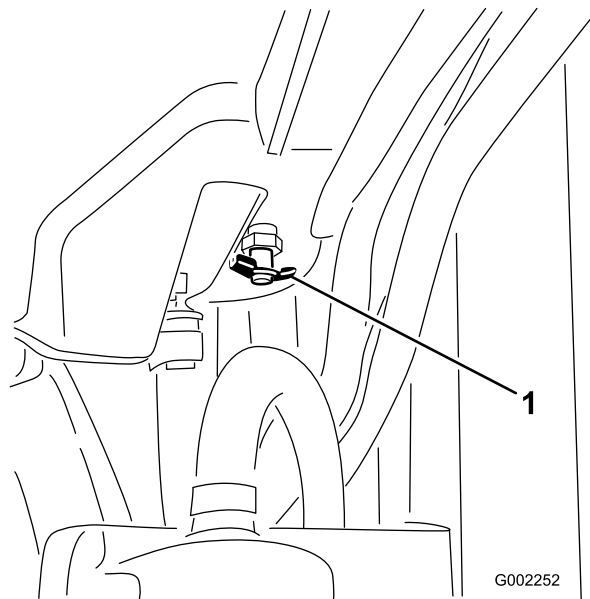

Figure 105
4. Open the drain valve and drain the coolant into the pan (Figure 105).
5. Close the drain valve (Figure 105).